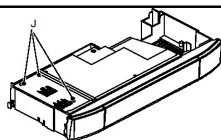

Fig. 5.36
4. Loosen the screws J and remove the service panel (Fig. 5.36).